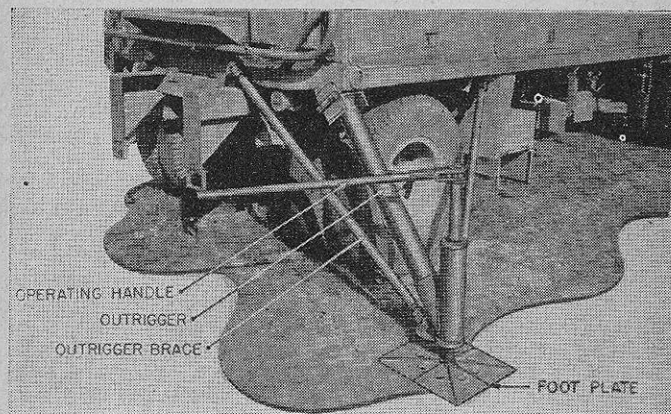

FIGURE 5.—Outrigger and jack.
c. In operating position, the weight of the trailer is supported by four outriggers, one at each corner. Figure 5 shows details of this construction and a jack, one of which is provided at each outrigger for leveling the trailer.